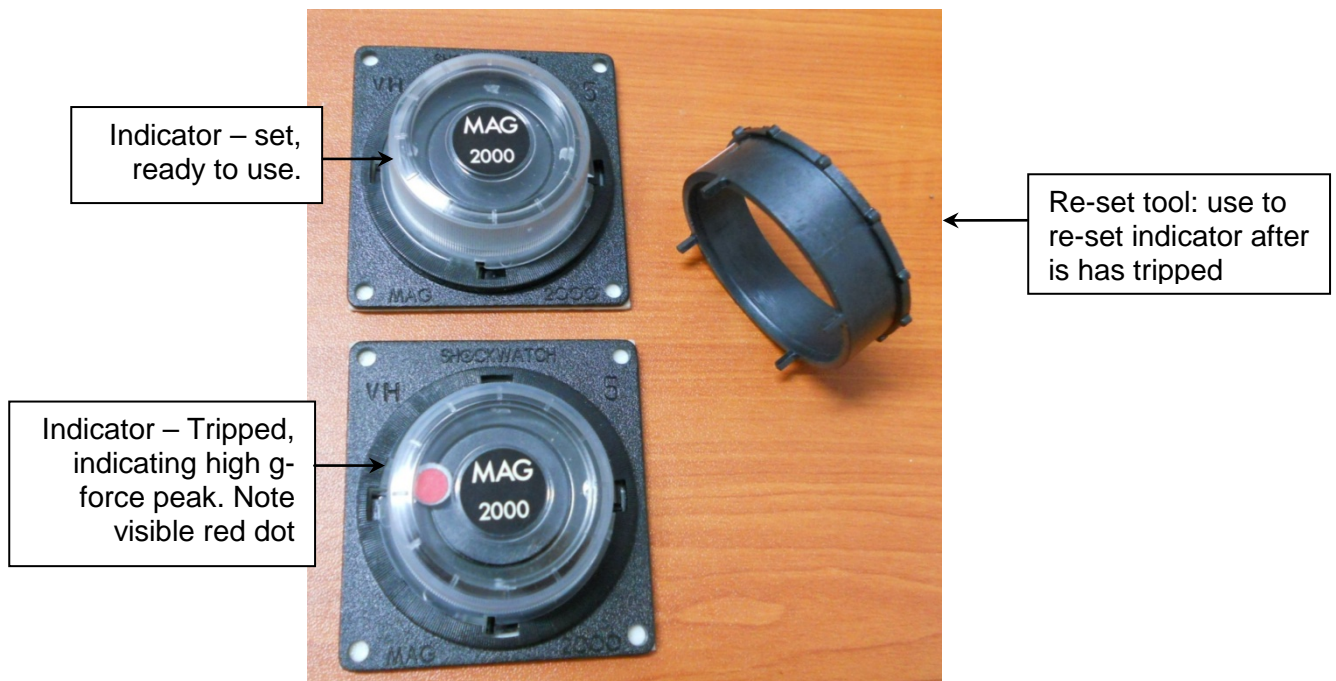

Figure 30 – ShockWatch Indicator
- When the airframe is subjected to a load of over 5g – such as from a heavy landing, strong turbulence or rough round roll – the indicator will “trip” and a red dot will appear as shown in Figure 30.